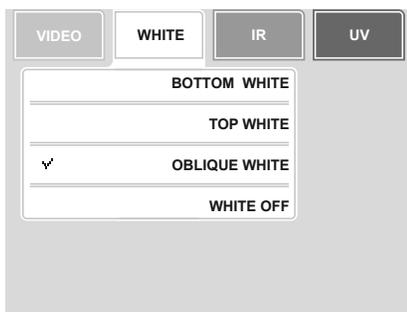

Fig. 13. Switching on **WHITE OBLIQUE** light
Place a banknote or a document on the device viewing table (4). Press WHITE in the operation mode menu. Select the Oblique white item in the submenu that opened (see Fig. 13). The mode is convenient, for example, for viewing the tilting effect on notes of different currencies. This mode makes possible to verify the height of the printed elements because they cast a clear shadow in an oblique light. The source of top white light is **LED** with a considerably high brightness, so **PLEASE DO NOT LOOK AT THE TOP WHITE LIGHT SOURCE**.